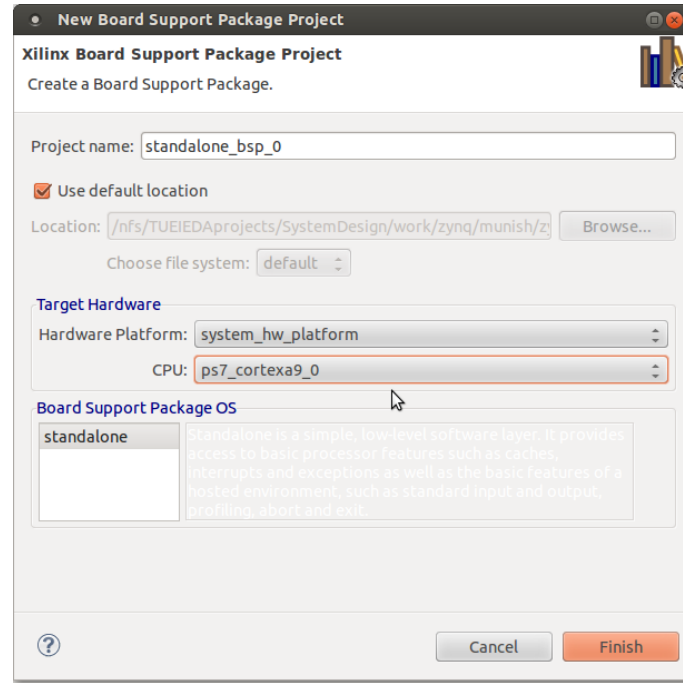

Figure 4.8.: Xilinx BSP project set up
6. Verify the default settings as (Figure 4.8),